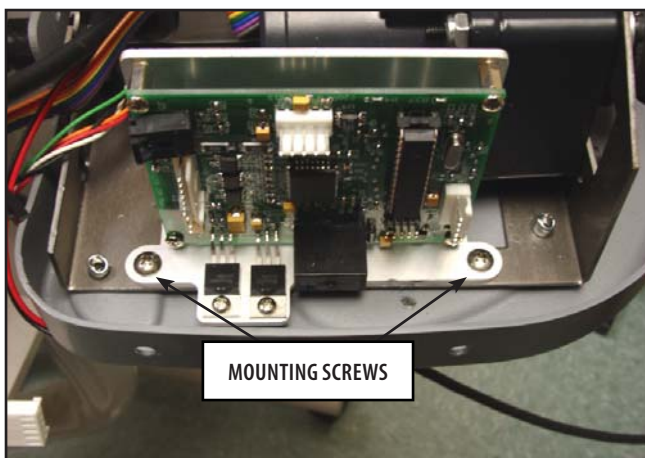

FIGURE 6.3
3. Using the #2 Phillips Screwdriver, remove the two mounting screws securing the Motor Control Board to the Base. **Refer to Figure 6.3.**